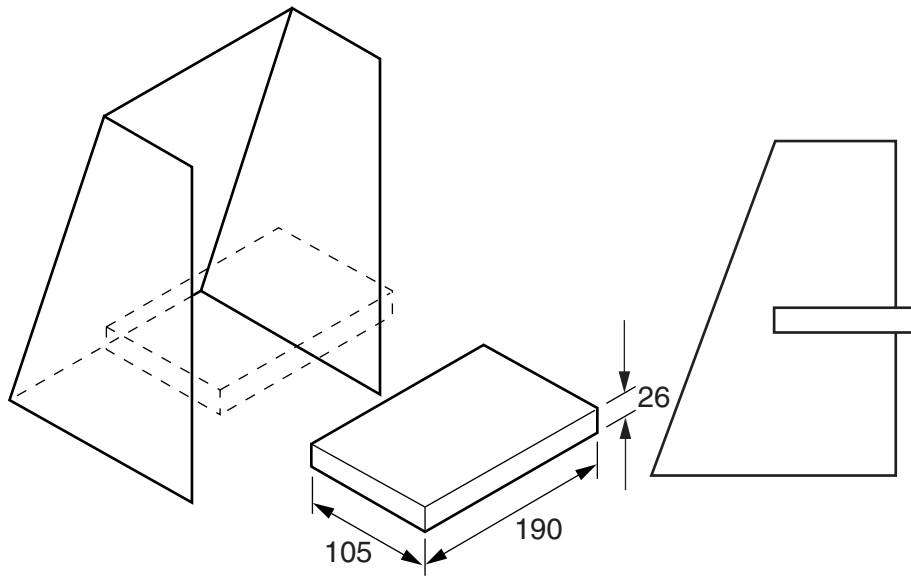

Fig. 8
- 5 Fig. 8 shows outline views of a video cassette storage unit to be made in a school workshop. The unit is to hold 10 video cassettes.